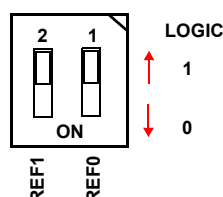

FIGURE 1. TYPICAL U2 DEFAULT SETTING 11 (1.5V)
- Set the "REF Selection" DIP switch (U2) to 11 corresponding to $DAC = REF = 1.5V$. Figure 1 details the typical default configuration for U2 when the board is shipped. In this default setting, the evaluation board is set for a reference voltage of 1.5V.